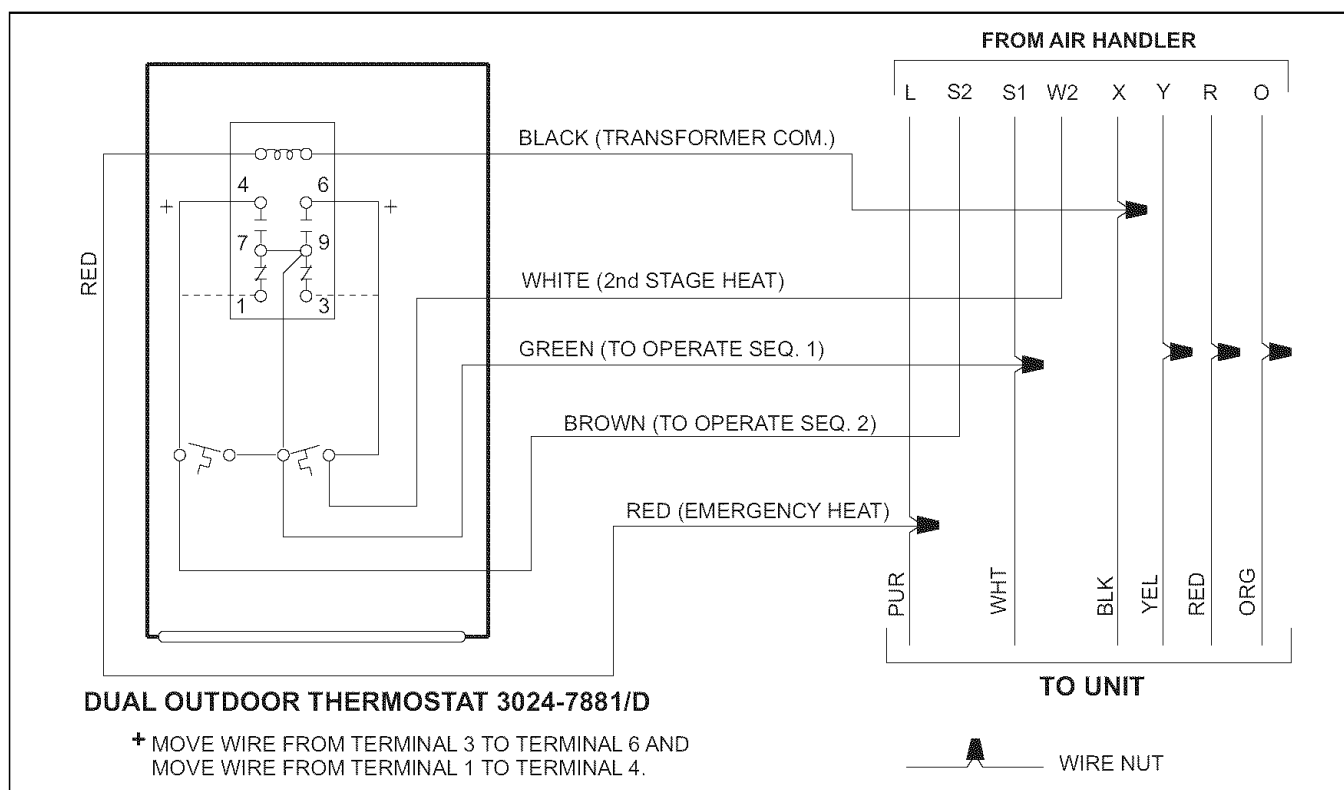

FIGURE 10 - Wiring Connections for BRHS, DRHS Series (Revision A, B, or C)
Use Figures 10 (dual thermostat) or 11 (single thermostat) for applications with BRH(S,Q), DRH(S,Q), BH(Q), DH(Q) model series with a revision code of "A", "B", or "C" at the end of the model number.